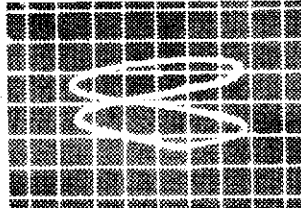
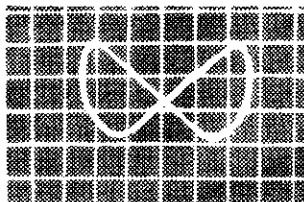

Figure 6b: Reference 1 octave above
Figure 6d: Reference 1 octave below
Press the highest C (right-most key) and adjust the #1 SCALE trimmer R12 for a stable lissajous display showing the oscillator to be an octave above the reference as illustrated in figure 6d.
Check the 2nd and 3rd Cs on the keyboard and verify that they produce acceptably stable displays similar to those shown in figure 6b and 6c respectively.
Turn the front panel KEYBOARD OCTAVE switch to its most CW position (3) and adjust trimmer R43 for a stable display as illustrated in figure 6d. Verify that the (1) and (2) settings of the KEYBOARD OCTAVE front panel switch produce the displays shown in figures 6b and 6c respectively.
- 10) VCO #1 HIGH END - With the KEYBOARD OCTAVE front panel control set to its maximum CW position (3), press the highest C on the keyboard and adjust trimmer R9 (#1 HIGH) for a stable display. An example of the display is not shown, but if you are in doubt there will be 16 "points" on the top of the display indicating that the VCO is 4 octaves above the reference oscillator.